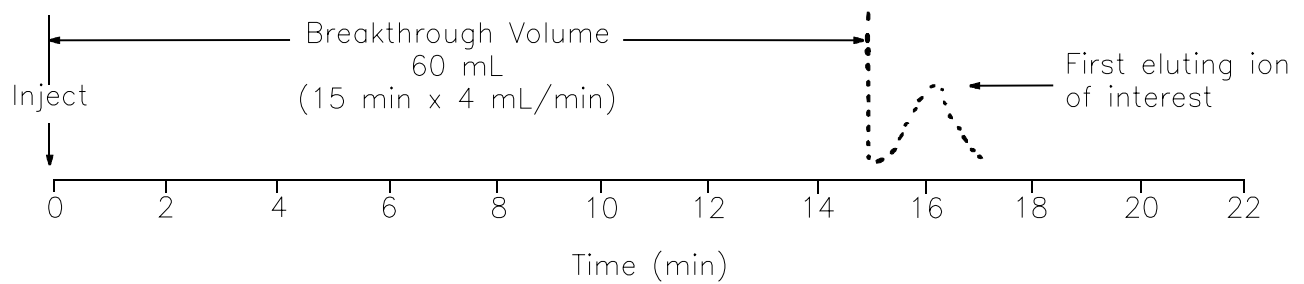

Figure 5
- Set up the Ion Chromatograph, as shown in Figure 5 - Determination of the Breakthrough Volume, and equilibrate the concentrator column with eluent at the concentration flow rate needed to achieve a stable baseline.
- Record the resulting chromatogram and calculate the breakthrough volume, as shown in Figure 5 - Determination of the Breakthrough Volume.